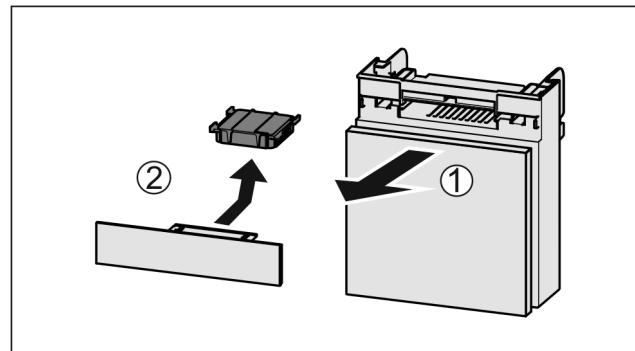

Fig. 164
- Pull out the compartment *Fig. 164 (1)*.
- Remove the carbon filter *Fig. 164 (2)*.